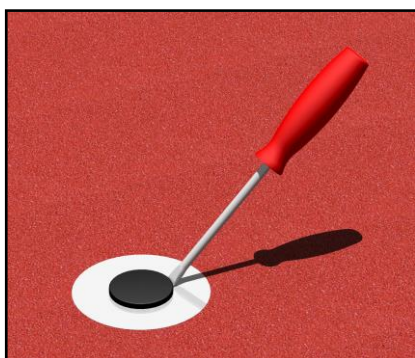

Figure 3
Remove the safety covers of the ground anchors with a screwdriver (**Figure 3**). The entire goal is to be adjusted via the **ground anchors (1)**. We recommend the storage of the safety covers for a possible reuse later on.
Now the supplied **screws M16x70 (5)** and **lock washers (7)** can be bolted with the help of the provided socket key insertion. The flexibility of the slide blocks in the **ground anchors (1)** can balance dimension inaccuracies. The **safety caps (figure 3)** close the openings of the **ground anchors (1)**.